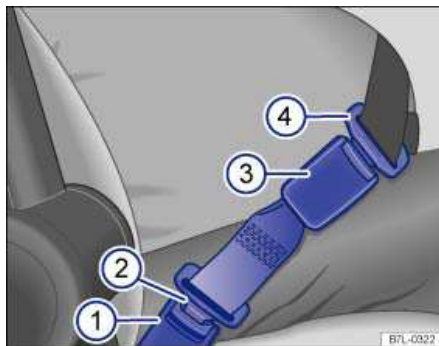

Fig. 68 A safety belt extender properly attached to the factory-installed safety belt.
Key to fig. 68:
- Insert the buckle tongue on the safety belt extender ⇒ fig. 68 (2) into the vehicle belt buckle for the seat where the safety belt extender is being used (1).